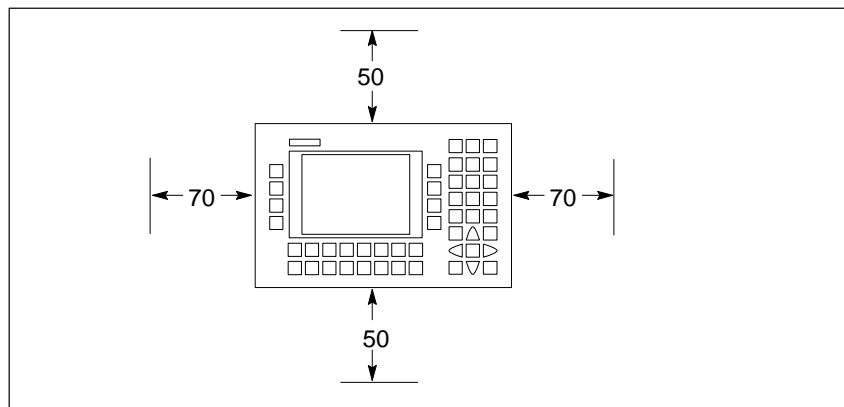

Figure 2-7 Gap Dimensions to be Observed when Installing the C7
- A gap of 50 to 70 mm from a housing wall must be observed on the sides of the C7 as shown in Figure 2-7.